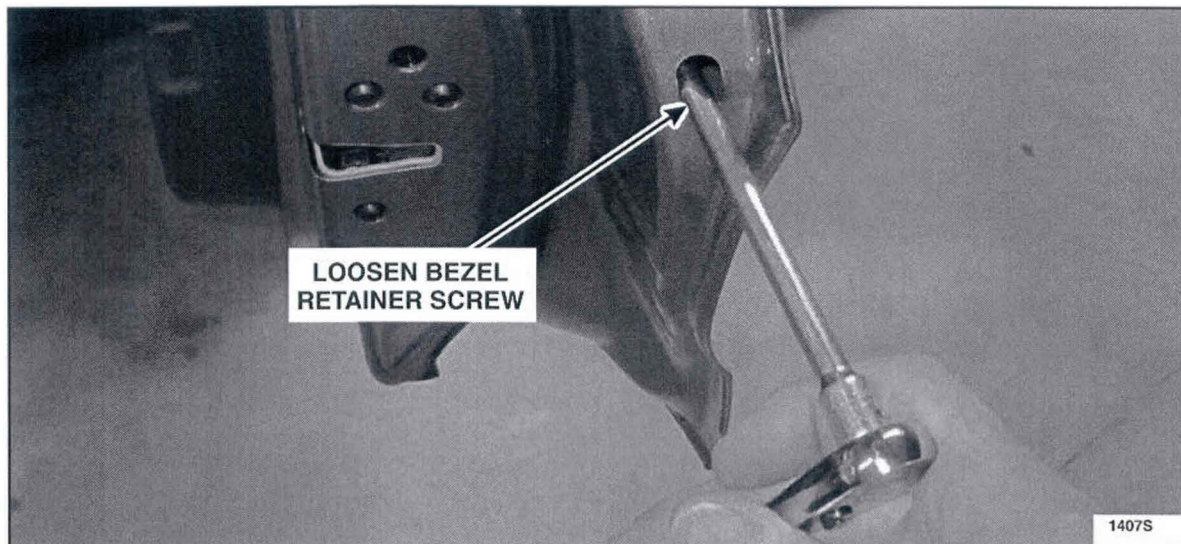

FIGURE 6
2. Using a T-20 Torx® driver, loosen the bezel retainer screw until the exterior door handle bezel can be removed. See Figure 6.
7. Using a T-20 Torx® driver, tighten the bezel retainer screw. See Figure 6.